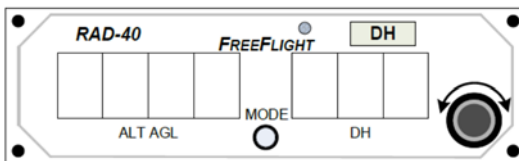

Figure 7-2. RAD-40 Display Panel
- c. The RAD-40 display panel (Figure 7-2) consists of a four-digit altitude field on the left, a three-digit decision height (DH) field on the right, and a DH LED near the upper right corner of the display. The DH LED illuminates when the aircraft descends below the pilot-selected DH.